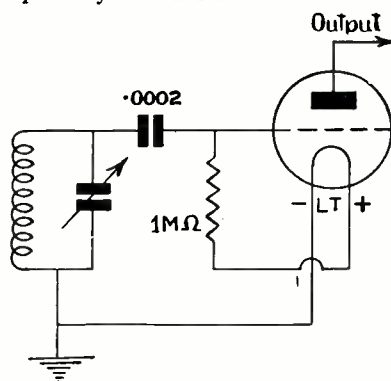

Fig. 1.—The common or garden type of detector arrangement—the leaky-grid method noted for its sensitivity
There are three main types of detector employed in wireless sets: they are (1) leaky grid (Fig. 1); (2) anode bend (Fig. 2); and (3) diode. Anode-bend detection is out of fashion and leaky-grid detection is extremely popular. Why? Because it is sensitive to quite weak signals, and this makes it very useful for small sets.